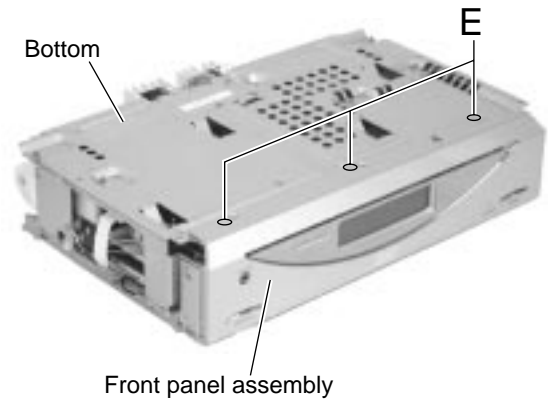

Fig.4
■Removing the front panel assembly (See Fig.4 to 6)